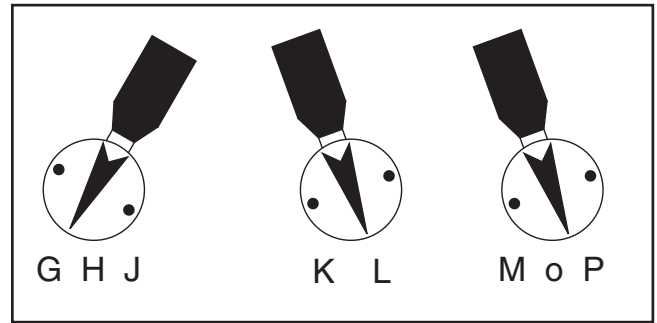

Figure 50. Spindle speed selectors shown set at 1280 RPM.
- Move the spindle speed selectors (**Figure 50**) to the appropriate RPM setting. Refer to **Figure 49** for available RPM and the selector combinations.